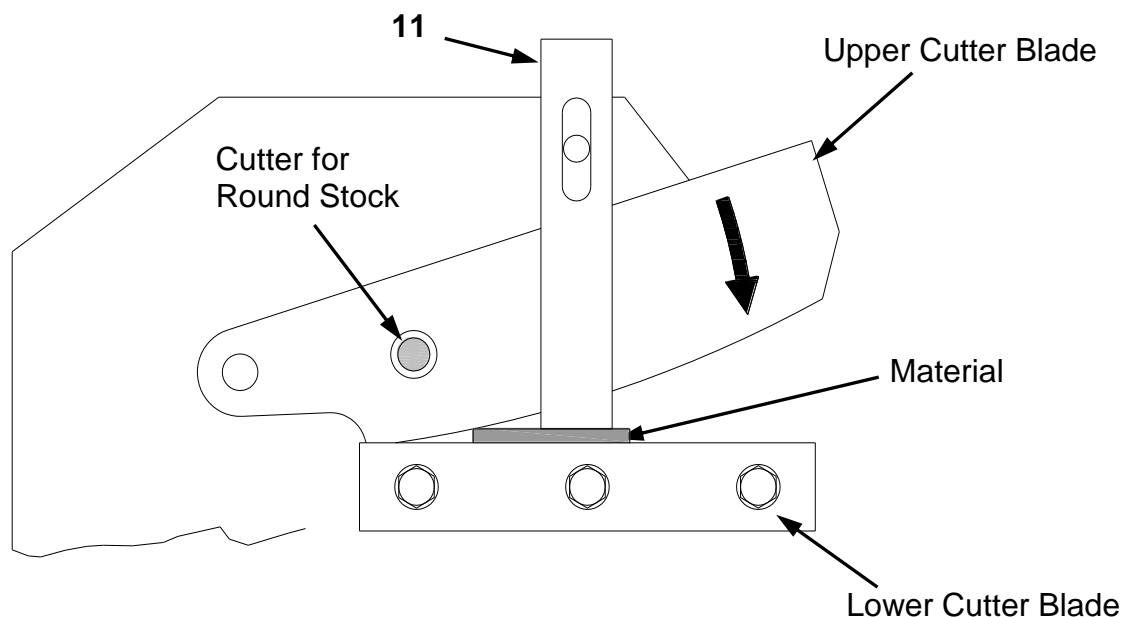

figure 2
1. To cut flat bar, lay it across the lower cutter blade. Gently push the material forward until it contacts the upper cutter blade (see fig 2). By doing so, you will be getting the most cutting force at the point of contact.
1. Make sure the upper cutting blade is in the up position, and then insert the round material into the cutter opening. Fig. 2.